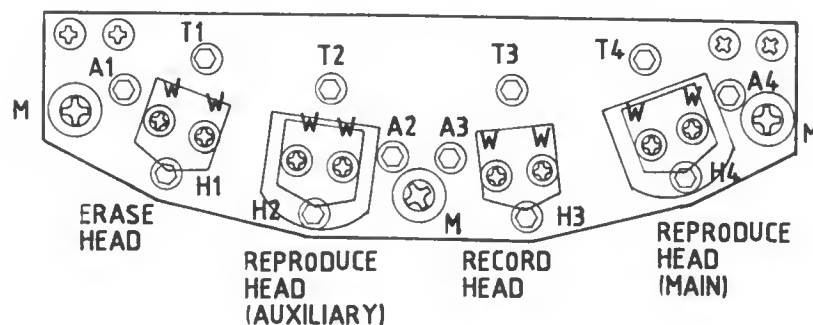

Fig. 6-12 Head Assembly
The head assembly is mounted on three tape-guide posts and secured in place by the three screws labeled "M" in Fig. 6-12. The insulating shield for the head assembly printed circuit board is secured by the screws labeled "S".
- (7) Paint the head face with a soft crayon, run the tape for about ten seconds, and check the crayon rubbed away by the tape. If tape wrap is incorrect, adjust the wrap by loosening the screws labeled "W" as shown in Fig. 6-12.